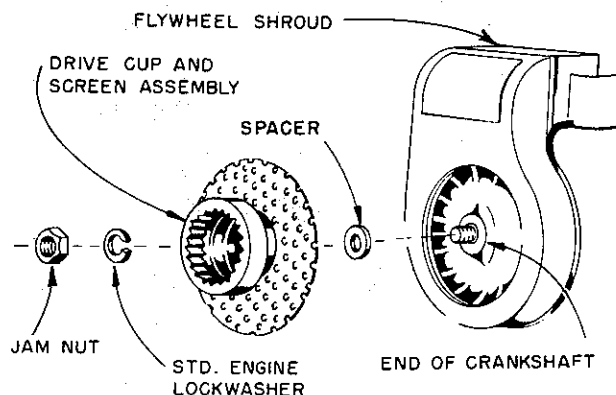
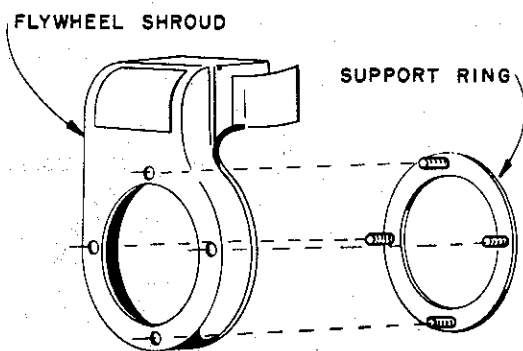

FIG. 2
FIG. 5
- B. Mount spacer, drive cup and screen assembly to end of crankshaft, as illustrated in Fig. 2. Secure in place with standard engine lockwasher and new jam nut.
- F. Place support ring inside flywheel shroud with studs extended thru drilled holes, as shown in Fig. 5. Reassemble flywheel shroud, spacer, drive cup-screen assembly, lock-washer and jam nut, as illustrated in Fig. 2.